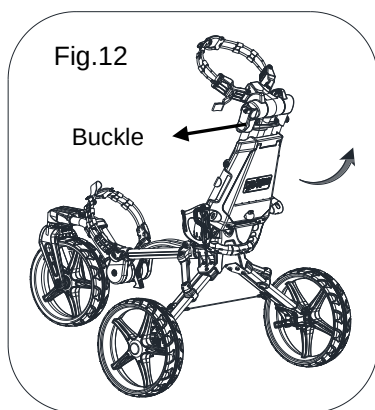
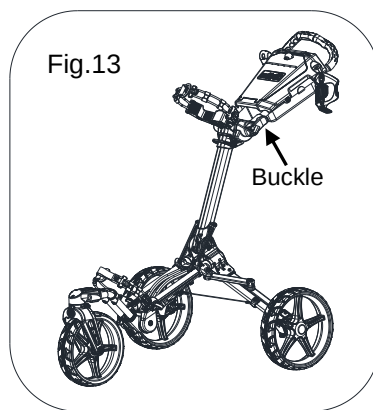

Fig.12
Fig.13
3. Release the handle height adjustment buckle and lift the handle to adjust it to the desired height. Then tighten the buckle. The cart is now fully extended, as shown in Fig. 12 and Fig. 13.